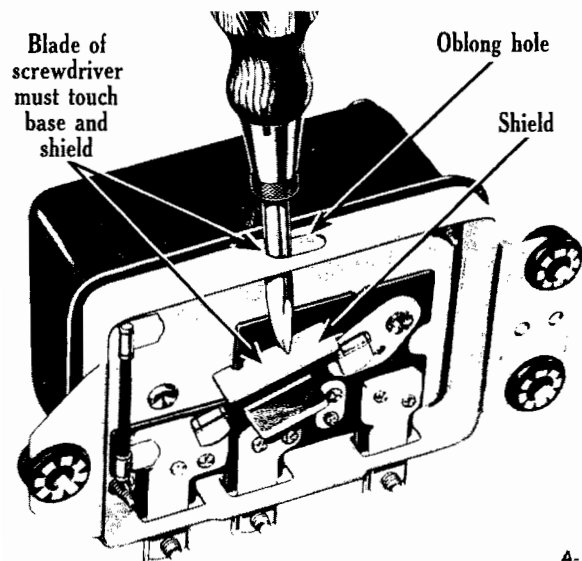

Fig. 12 - Quick method for cutting out voltage regulator in order to check current regulator setting.
1. QUICK CHECK METHOD--Insert screwdriver blade through oblong hole in base of regulator until contact is made with shield around resistor (Fig. 12). Be sure to keep screwdriver at right angles to base, and hold firmly in place during check so that blade touches regulator base and shield at same time. This temporarily cuts out voltage regulator unit. Turn on lights and accessories to prevent high voltage during the test.